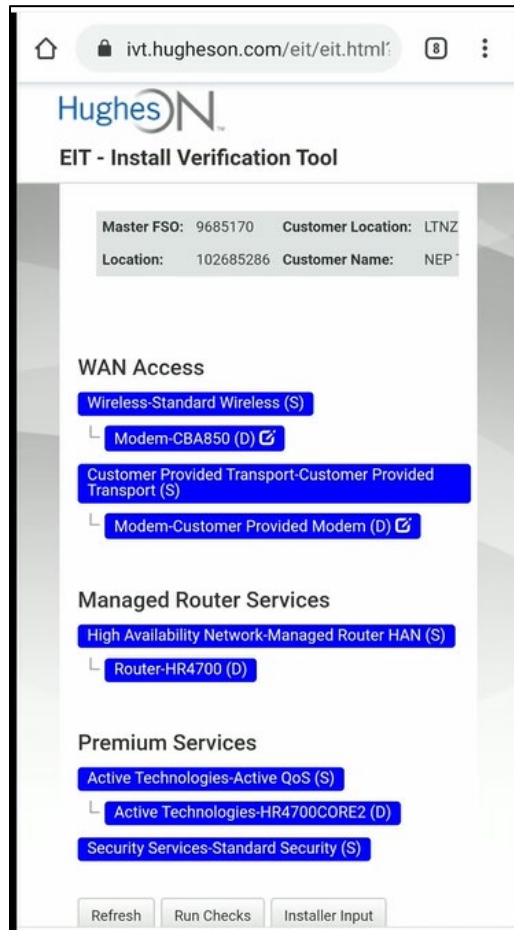

Figure 78: IVT screen 1
1. To open IVT in a browser on your smart device, tap the **Launch Installation Verification** button, as shown in Figure 78.